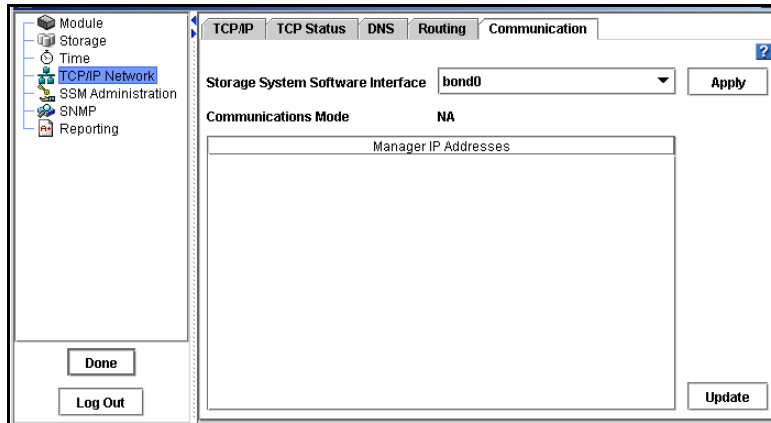

Figure 83. Verifying Interface Used for Storage System Software Communication
1. Select the Communication tab, shown in Figure 83.